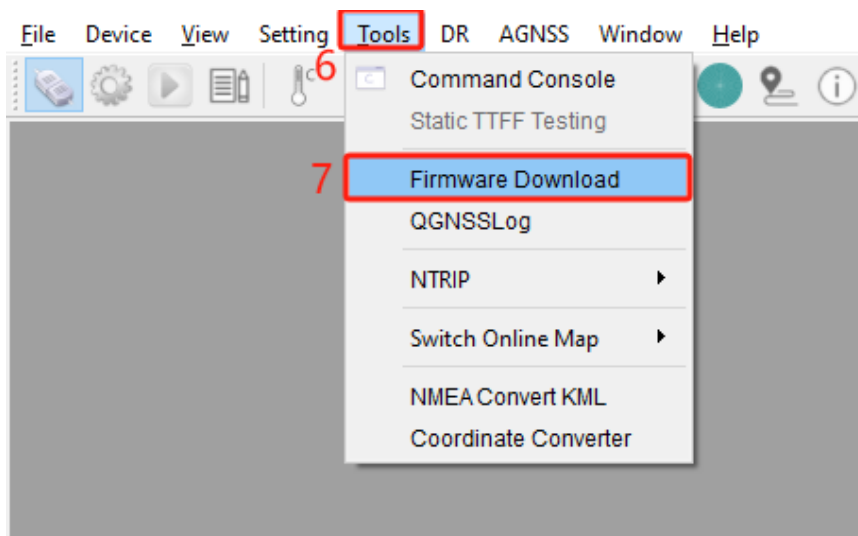

Figure 7: Firmware Download
Step 6 Click “Tools” as shown in Figure 7: Firmware Download.